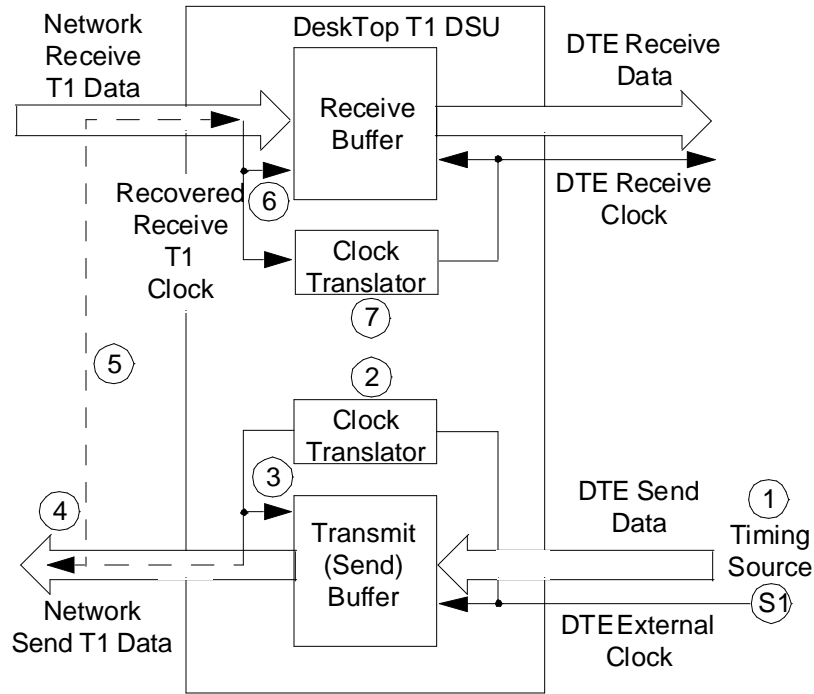

Figure C-3 DTE Timing
With DTE Timing, illustrated in *Figure C-3*, the customer equipment connected to the DSU DTEI interface provides its own channel transmit clock signal (1) on the appropriate interface lead. The DeskTop T1 DSU translates (2) this clock to provide the send timing source for T1 data output from the transmit buffer (3) to the network. The remote DSU uses this as its timing reference (4) and loops it back to the DeskTop T1 DSU (5). The DeskTop T1 DSU recovers the receive T1 clock from the network receive T1 data and uses it to clock T1 data into the receive buffer (6). The DeskTop T1 DSU also translates (7) the receive T1 clock to provide the receive clock signals for the channel on the appropriate interface leads.